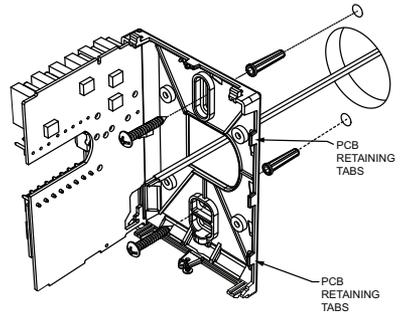

Fig. 2. Location of PCB retaining tabs and mounting screws
3. Open the thermostat PCB to the left by pressing the PCB retaining tabs. (Fig. 2).
8. Insert screws through the mounting holes on each side of the base and mount base on wall. (Fig. 2).